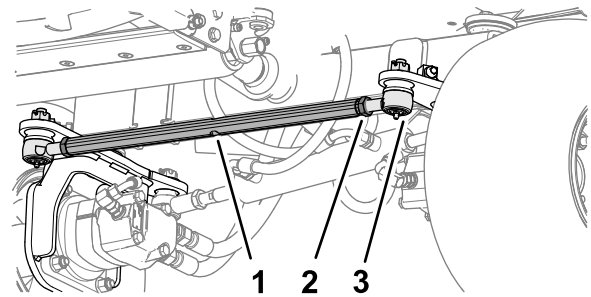

Figure 62
- At the front of the rear wheel, loosen the 2 jam nuts securing the track rod assembly to the rod ends (Figure 62).
- Align the wheels by rotating the track rod (Figure 62).
- Tighten the 2 jam nuts to secure the track rod assembly and the rod ends (Figure 62).